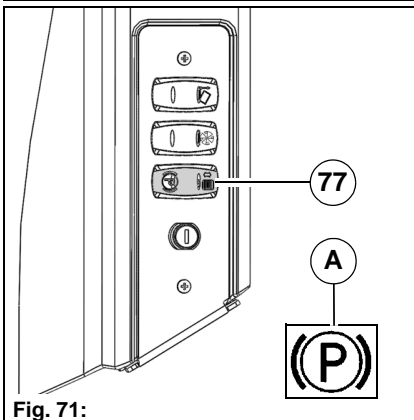

Fig. 71:
- The warning symbol **Fig. 71-A** appears in the multifunctional display.
Press the switch **Fig. 72-77**. The parking brake is released again. With the parking brake released the warning light **Fig. 71-A** goes out.